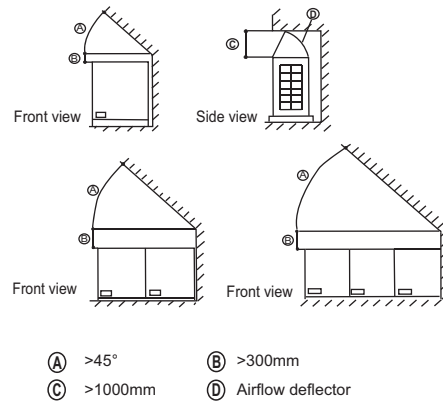

Fig.2-14
- In case any obstacles exist above the outdoor unit, refer to Fig.2-14.